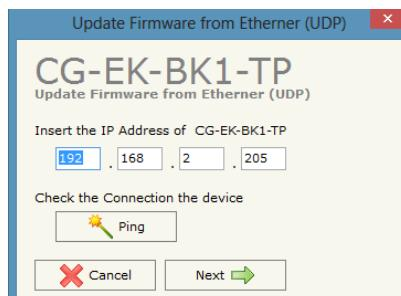

Figure 12 - Update configuration form
- Write the IP address **192.168.2.205** inside the Update Configuration form (see Figure 12 – Update configuration form)
- Provide the device IP address (see Figure 12 – Update configuration form). Make sure that the PC's network parameters are consistent with the IP address assigned to the device. Otherwise, change the PC's network settings
- Press *Ping* button; if you correctly applied the procedure, the text "*Device found!*" will appear (see Figure 12 – Update configuration form)
- Press *Next* button (see Figure 12 – Update configuration form)
In case of manual firmware update, replace “Sim67821.sim” file in the system folder “C:\Program Files (x86)\Ekinex\Compositor_CG-EK-BK1-TP\Master”. After replacing, open *Update configurazione* form (see Figure 12 – Update configuration form) in the application program and start the proper sequence.